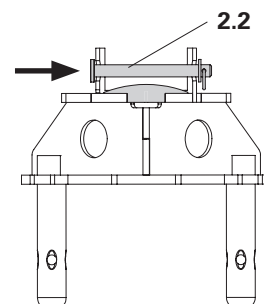

Fig. A4.02b
4. Secure connecting bolts (2.2) with plate and cotter pins. (Fig. A4.02b)